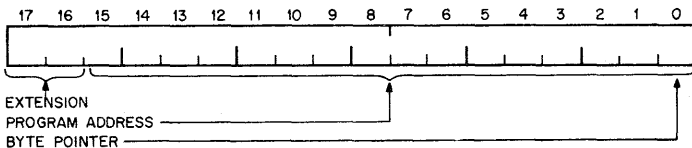

Figure 1-3 Address Line Bit Format
1.1.1.2 Address Lines (A<17:00>) - The 18 address lines are used by the master device to select the slave (a unique memory or device register address) with which it will communicate. The reason for 18 address lines is to extend the total memory capability of future members of the PDP-11 family to 262,144 bytes. The bit format of the 18 signals is shown in Figure 1-3.